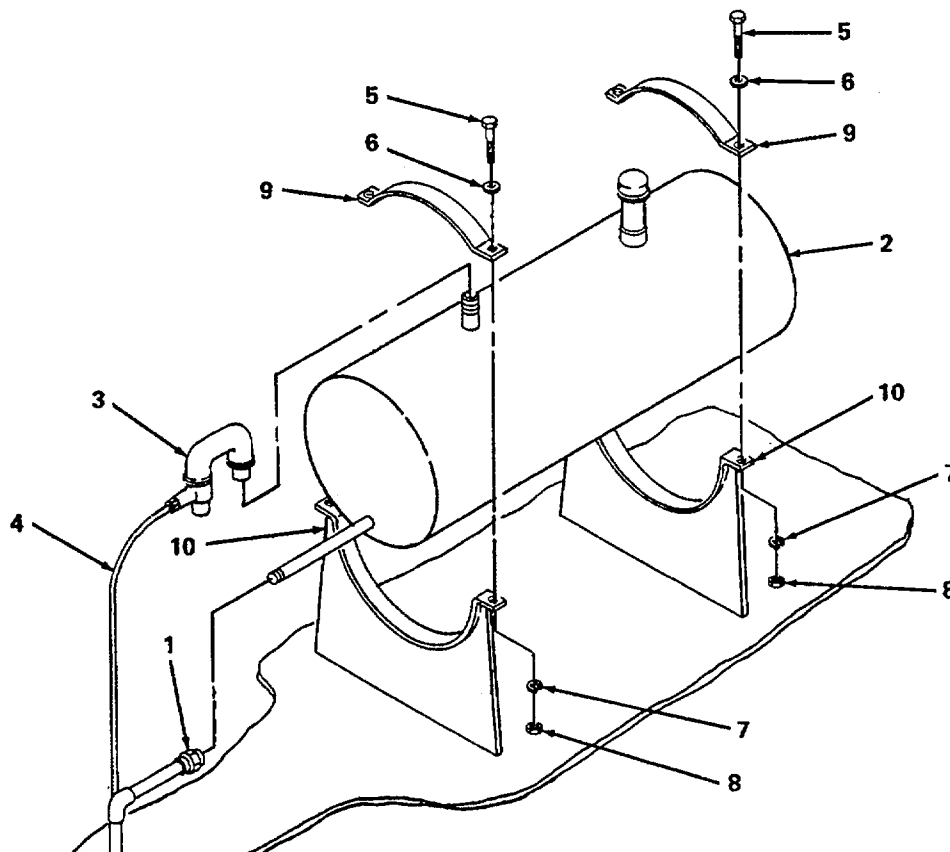

Figure 5-4. Fuel Tank Replacement.
- (1) Disconnect lines.
- (a) Disconnect fuel line (1 figure 5-4) from fuel tank (2).
- (b) Remove vent pipe (3) from fuel tank(2) with line (4) in place.
- (2) Remove fuel tank from brackets.
- (a) Remove four screws(5), four flat washers(6), four lockwashers (7), four nuts(8), and two clamps(9).
- (2) Secure fuel tank in brackets.
- (a) Position fuel tank (2, figure 5-4) on brackets (10).
- (b) Position two clamps (9) over tank and install four screws (5).
- (2) Connect lines.
- (a) Install vent pipe (3) on fuel tank (2).
- (b) Install fuel line (2) on fuel tank (2).